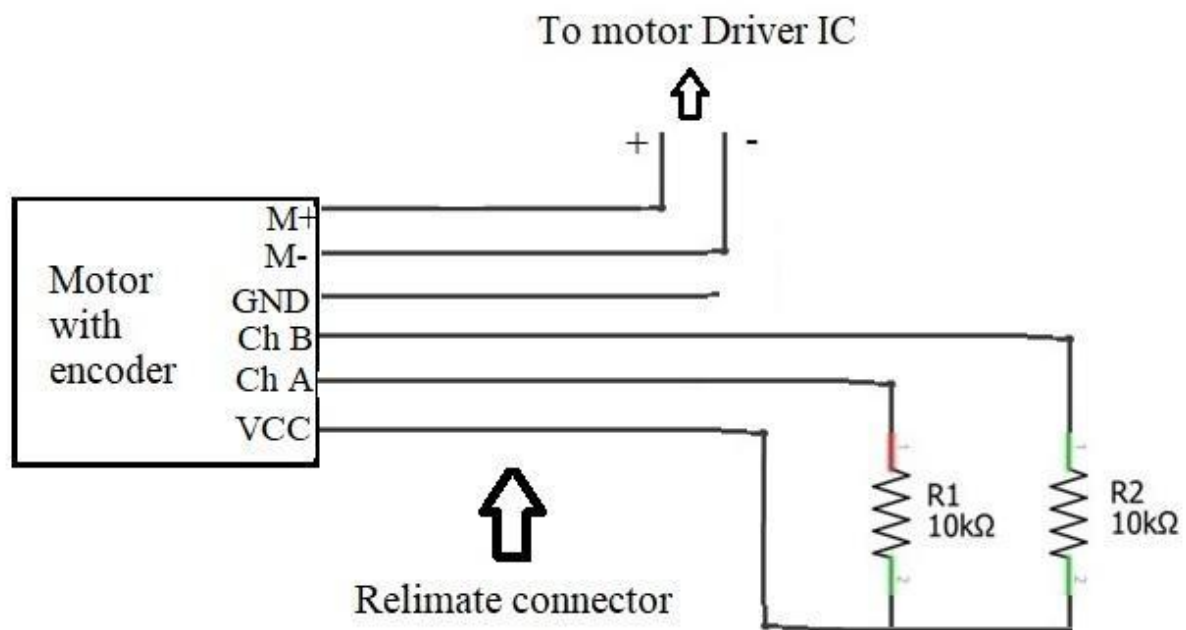

Figure 1: Circuit diagram for board
1. First study the circuit diagram as shown in Figure 1.
3. Place open ends of relimate connector and two resistors in perf board and solder them according to connections in Figure 1.